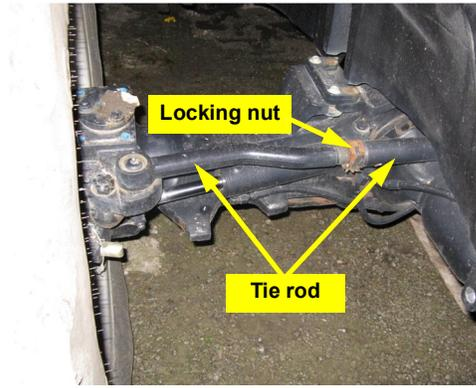

Figure 2a: Tie rod and locking nut location
- a. Locate the tie rod on the left hand side of the steering axle (Figure 2a).